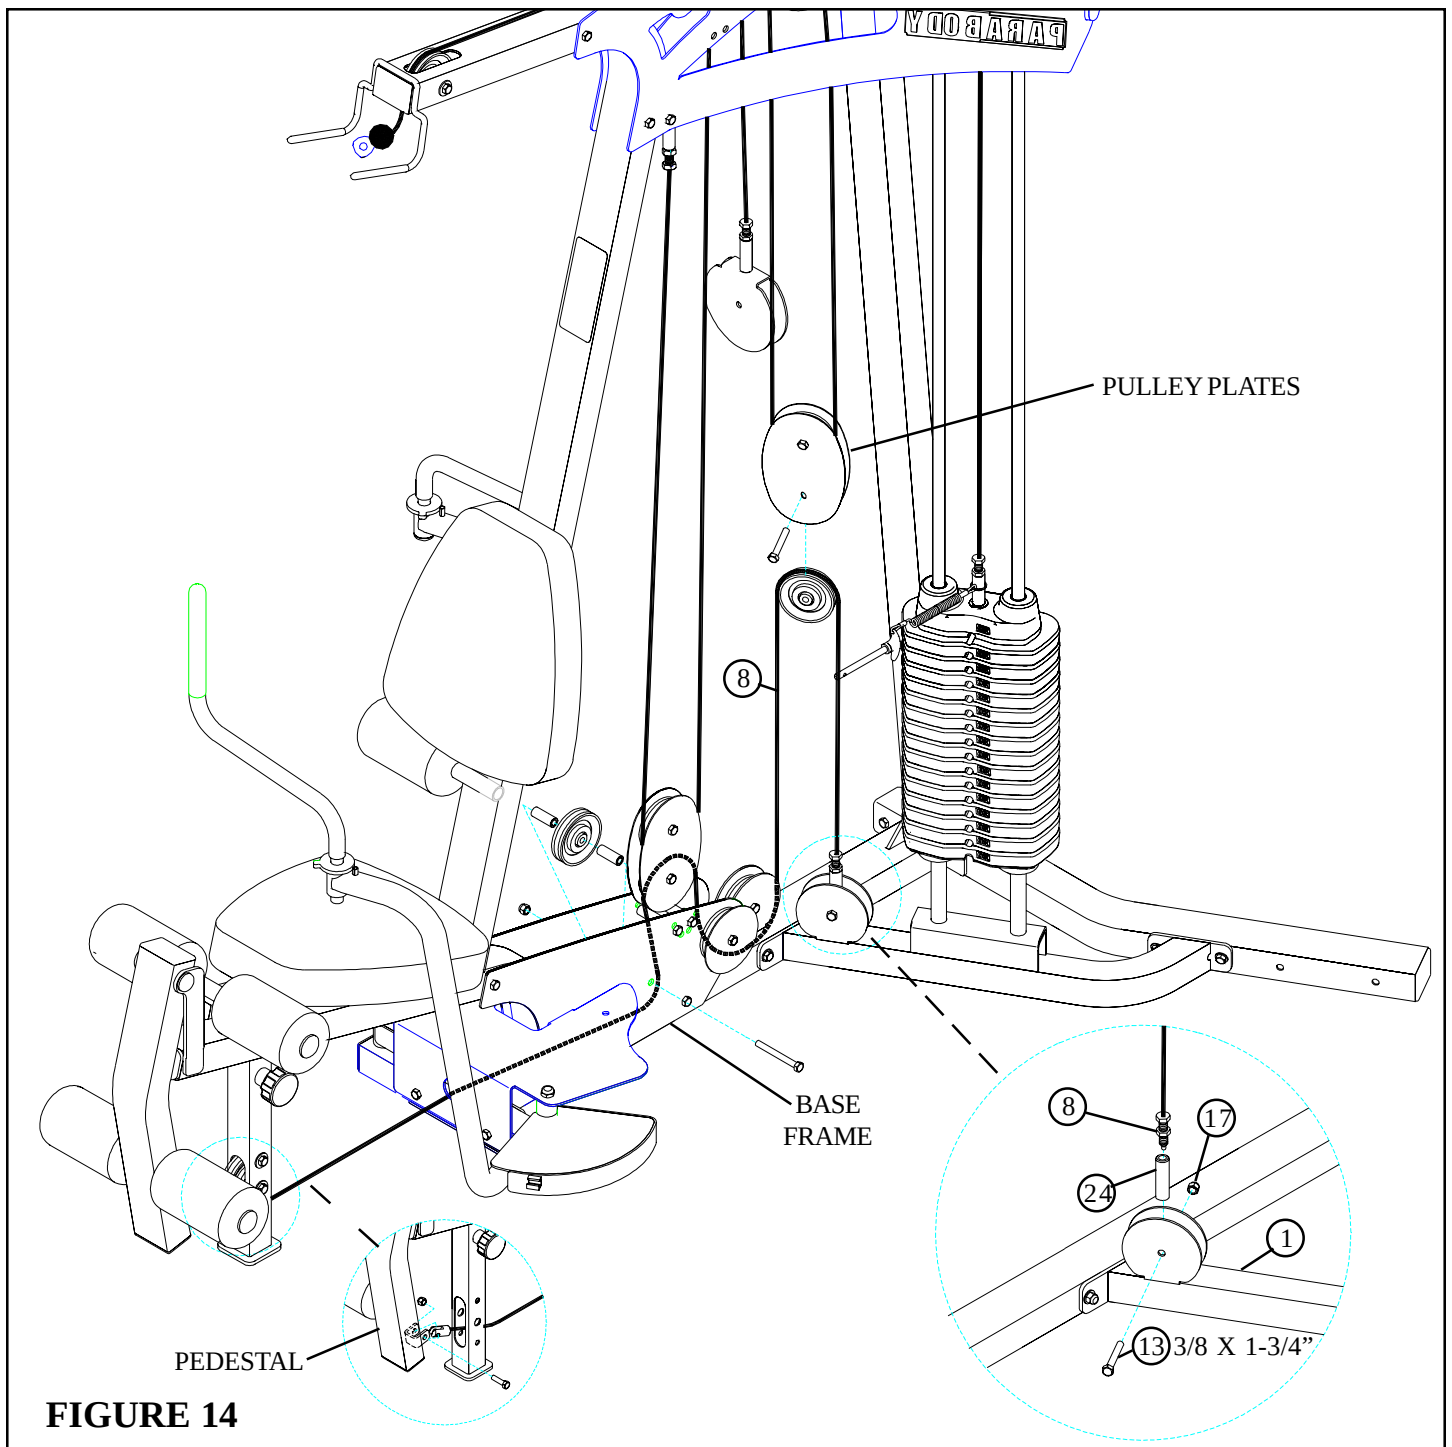

FIGURE 14
- Assemble the LEG CABLE (8) to the PEDESTAL and route the LEG CABLE (8) thru the BASE FRAME as shown in FIGURE 14. **(NOTE: Remove pulleys for ease of installation.)**
- Route the LEG CABLE (8) around the 3-1/2" PULLEY on the PULLEY PLATES using one existing 3/8 X 1-3/4" BOLT and one existing 3/8" LOCK NUT. See FIGURE 14.
- Securely assemble the threaded end of the LEG CABLE (8) to the THREADED HOUSING (24) then assemble the THREADED HOUSING (24) to the bracket on the STACK BASE (1) using one 3/8 X 1-3/4" BOLT (13) and one 3/8" LOCK NUT (17) as shown in FIGURE 14.